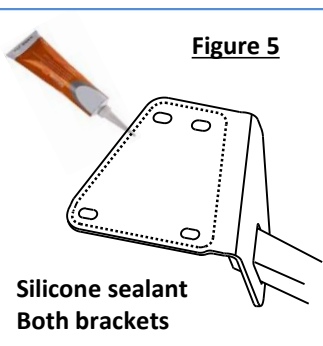

Figure 5
- Install hitch** - apply silicone sealant to the hitch bracket mounting surfaces to prevent intrusion of water and exhaust fumes. **See figure 5.** Raise hitch and bumper beam into position aligning holes with weldnuts in the end panel. Sandwich the hitch between the bumper beam and end panel. **See Figure 1.**
- Install fasteners** – using a 13mm socket, install (8) M8 hex bolts, lock washers, and flat washers provided with hitch into weldnuts in end panel, (4) per side.
- Reinstall lower fascia** – reinstall the lower fascia aligning tabs in lower fascia with upper fascia. Reinstall the (6) retaining clips into fascia tabs removed in step 2a.
- Reinstall wheel well trim and underbody panels** – reinstall the wheel well trim and (2) underbody panels using the original fasteners noted in steps 1 and 2.
5. **Install hitch** - apply silicone sealant to the hitch bracket mounting surfaces to prevent intrusion of water and exhaust fumes. **See figure 5.** Raise hitch and bumper beam into position aligning holes with weldnuts in the end panel. Sandwich the hitch between the bumper beam and end panel.
6. **Install fasteners** – using a 13mm socket, install (8) M8 hex bolts, helical lock washers, and flat washers provided with hitch into weldnuts in end panel, (4) per side.